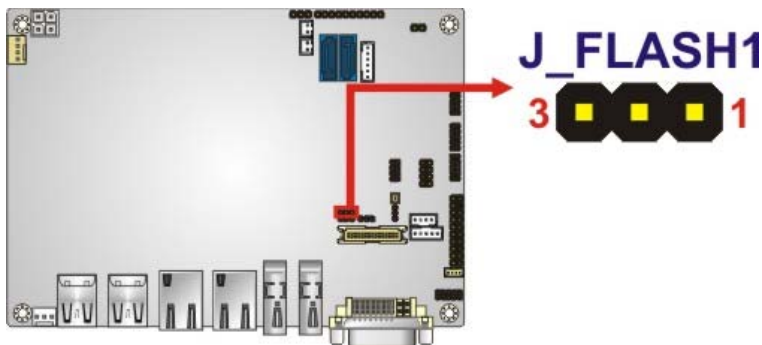

Figure 4-6: Flash Descriptor Security Override Jumper Location
- Jumper Location:** See Figure 4-6